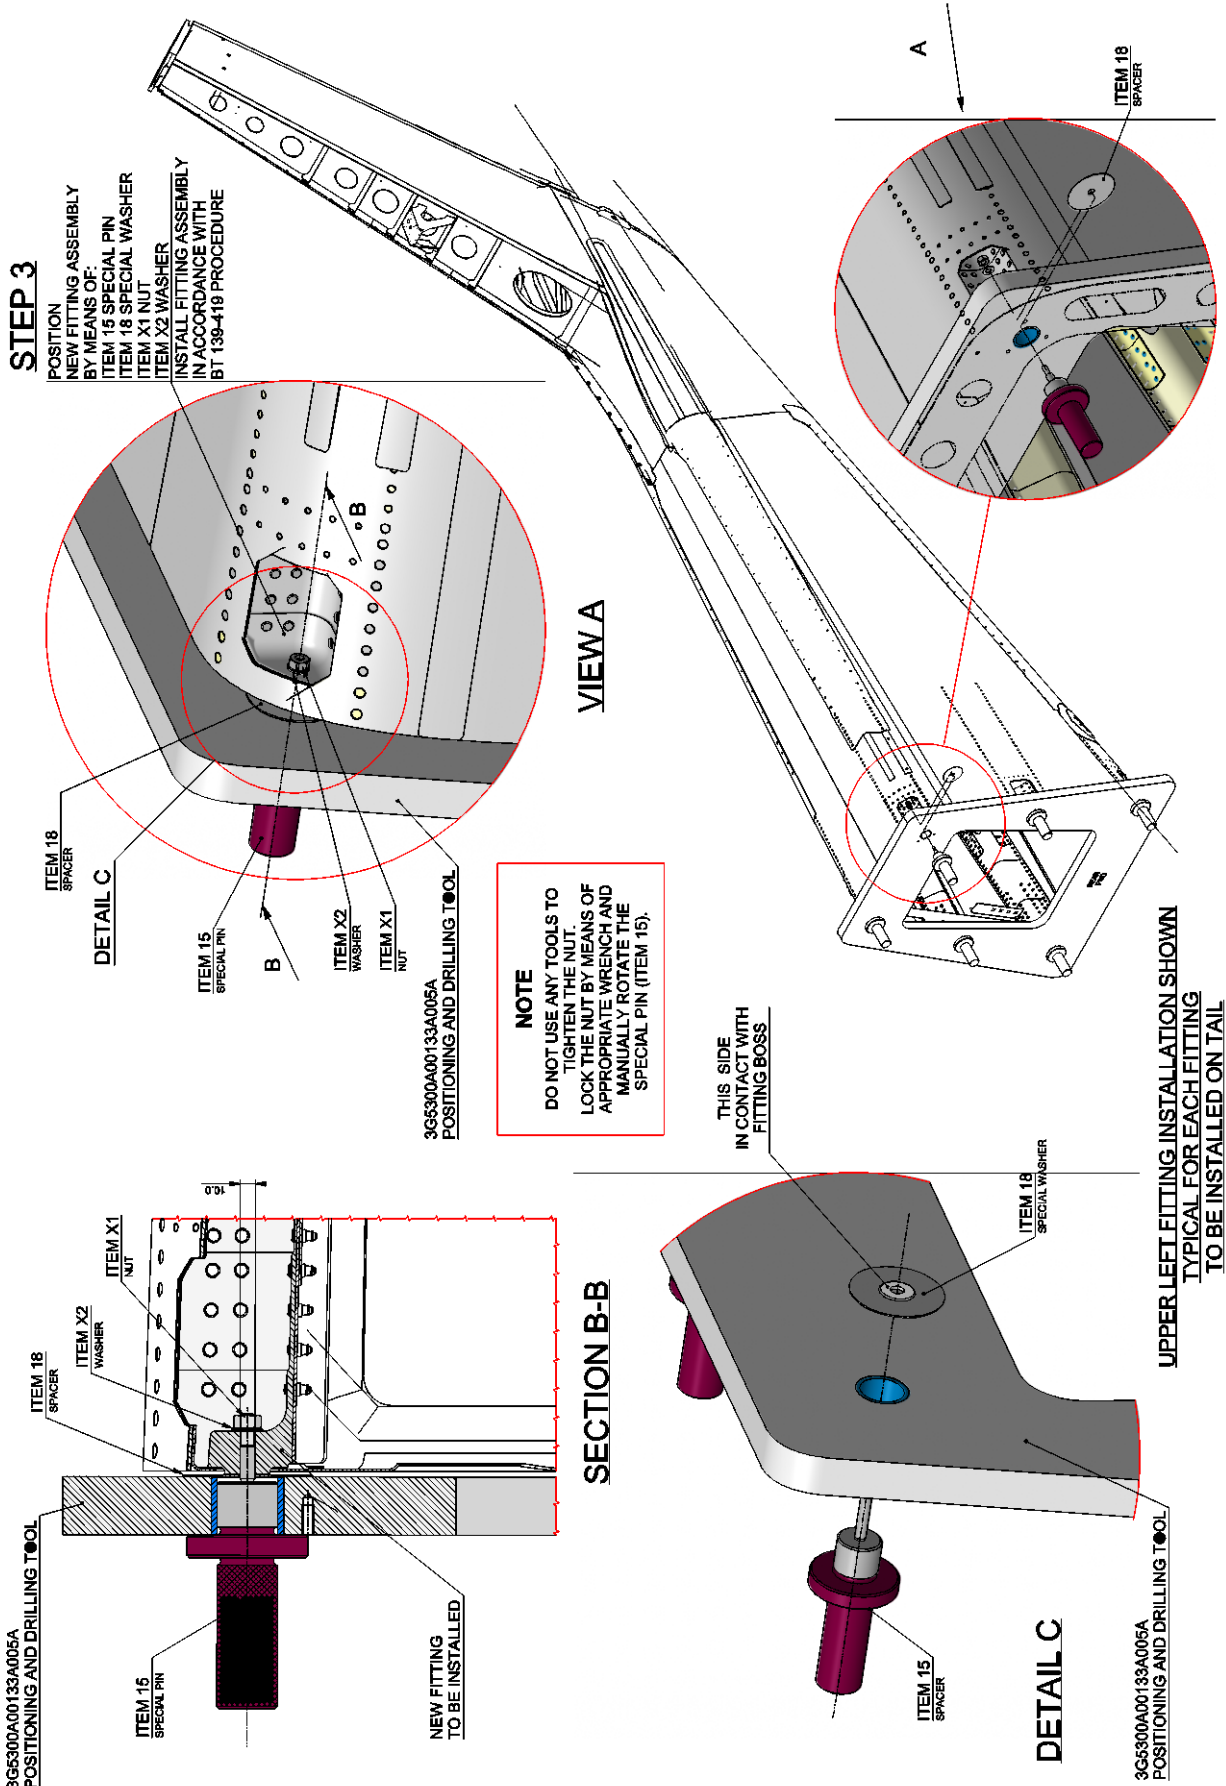

Figure A4
5. With reference to Figure A4, position the new fitting assembly to install in relevant position by means of a special pin (ITEM 15), a spacer (ITEM 18), a washer (ITEM X2) and a nut (ITEM X1) and perform the LH upper fitting installation in accordance with BT139-419 procedure.